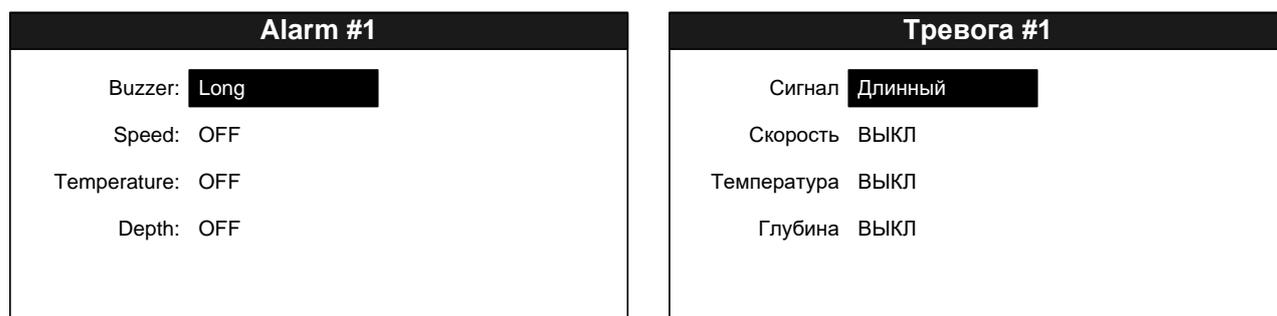

Figure 25 – Select of alarm type
- select menu item “Alarm #1” and press “ENTER”, see Figure 25;